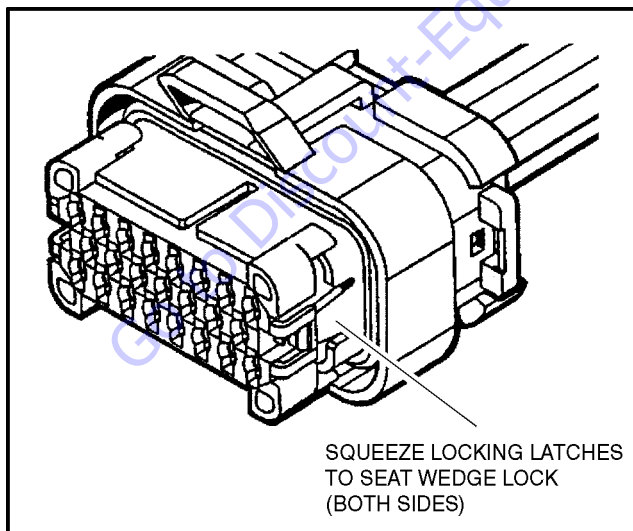

Figure 7-8. Connector Assembly Figure 3
3. After all required contacts have been inserted, the wedge lock must be closed to its locked position. Release the locking latches by squeezing them inward (See Figure 7-8).